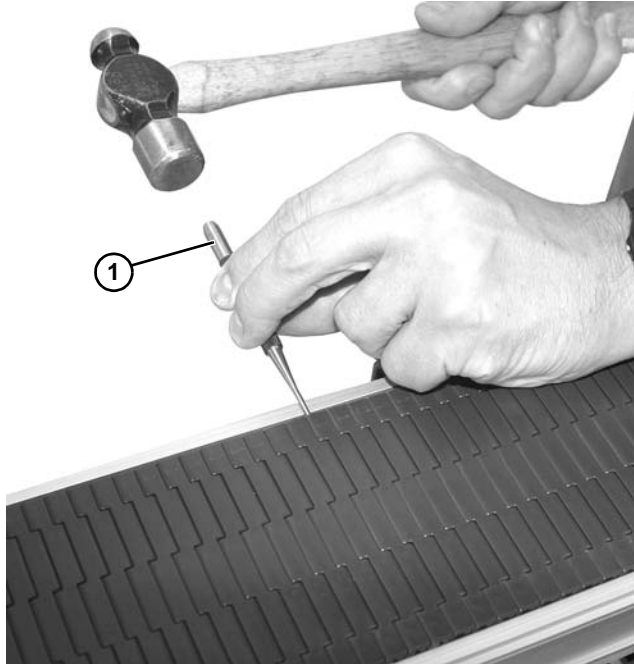

Figure 24
2. Insert punch (**Figure 24, item 1**) into non-retaining side of belt, pushing rod out.